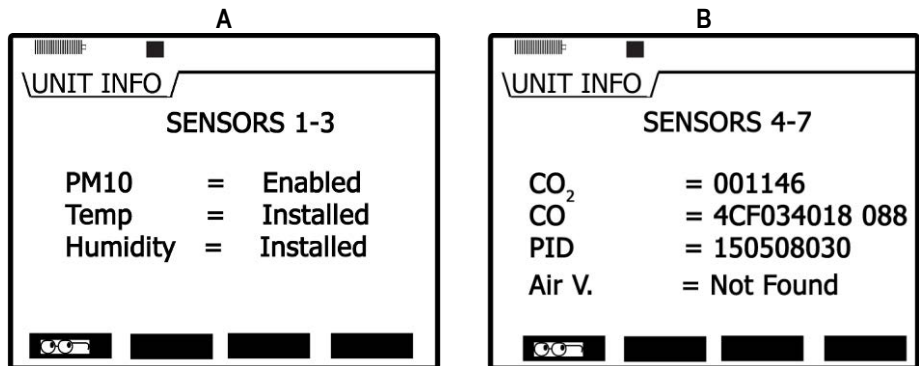

Figure 2-6: Viewing installed sensors
3. To view the installed sensors, repeatedly press **Enter**  and it will display the Unit Info screen with the installed sensors. (See Figure 2-6).